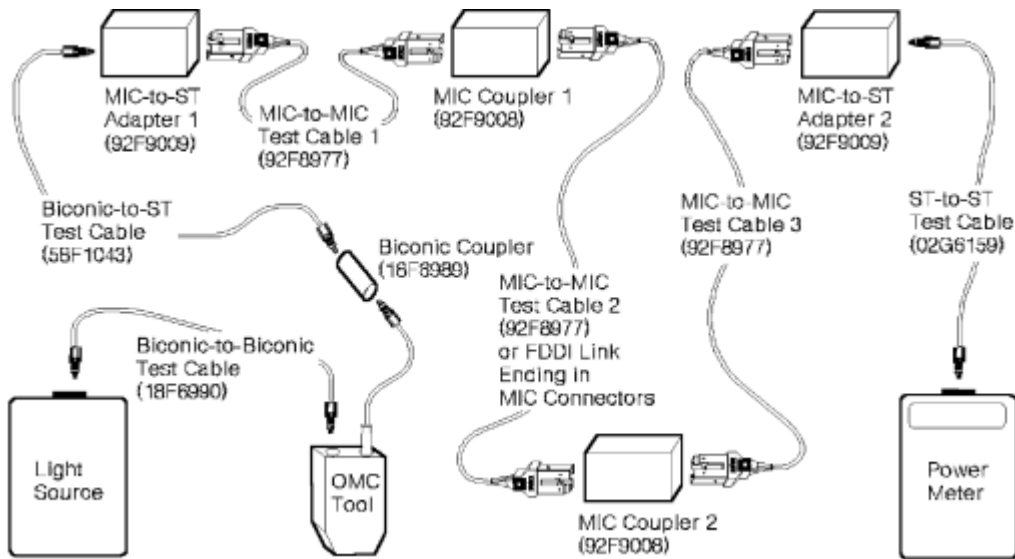

Figure 45. Obtaining the FDDI end-to-end link loss using the fast-path method
- FDDI links - see Figure 45 on page 41.